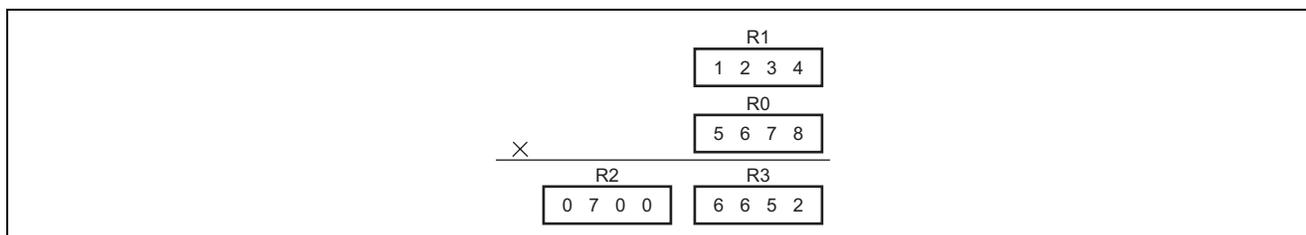

Figure 2 Multiplication When the Upper Digits are not Used
- When any upper digit of an input argument is not used, the "0" must be explicitly set in the digit, as is shown in figure 2. Otherwise, the correct result might not be obtained because the undefined data in the upper digits is included in the multiplication.